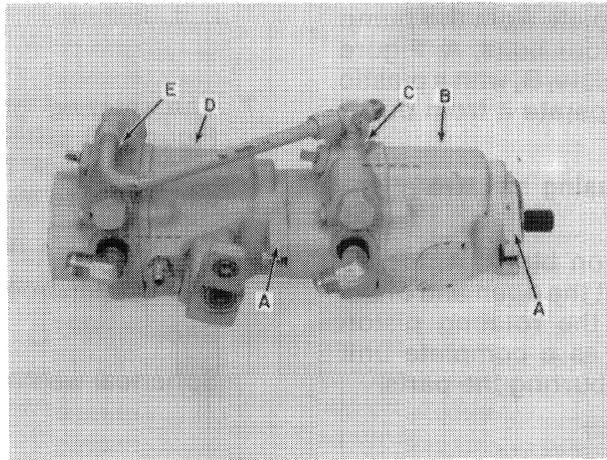

FIGURE 4-1
The hydrostatic pump assembly, Figure 4-1, consists of the right transmission pump, B, the right valve block, C, the left transmission pump, D, and the left valve block, E.
NOTE: Dealer adjustment requests for oil leak repairs, other repairs, or overhaul of transmission pumps must include the model number of the transmission and the date code. These are stamped in the flange of the pump housings, A, Figure 4-1.
1. Clean the complete pump assembly, Figure 4-1, before teardown.
2. To insure proper reassembly, use a scratch awl to scratch lines across the pump housing and valve plates as shown by the dotted lines in Figure 4-1.